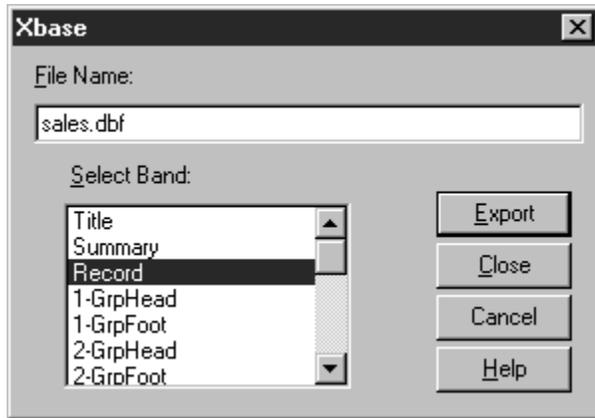

Figure 17.11 Xbase/Worksheet Export Dialog
1. On the Export dialog box, highlight either “Xbase” or “Worksheet” in the list box and select Edit. Depending on the export type, either the Xbase Export dialog (shown in Figure 17.11) or the Worksheet Export dialog displays.